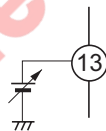

Figure 2
- Switch (pin 13) can be changed by supplying some voltage as figure 2.